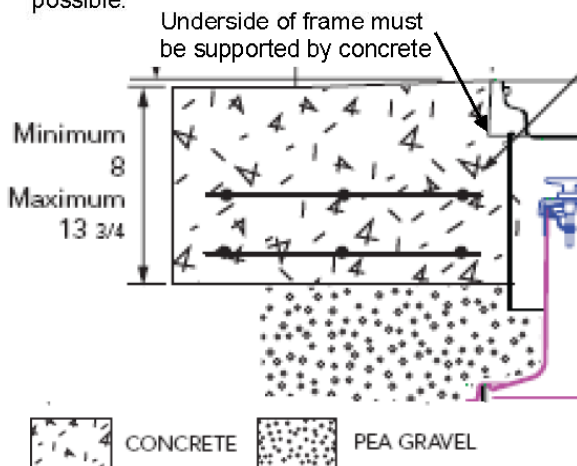
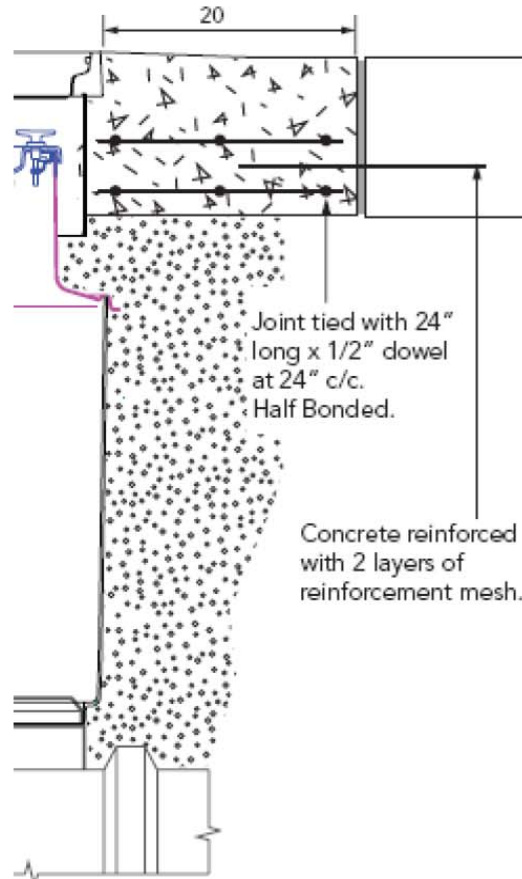

Figure 50
Figure 51
68. It is required that the frame and skirt assembly, and the multiport cover be set as an assembled unit, with the bolts on the 209398 rings engaged. Frame must be supported by a minimum depth of 8" of concrete (maximum 13.75" depth, see Figure 50.) Concrete reinforcement must be positioned as close to the frame as possible. Minimum block of 20" square around the frame. Joint must be tied as per Figure 51. Continuous pour preferred if possible.